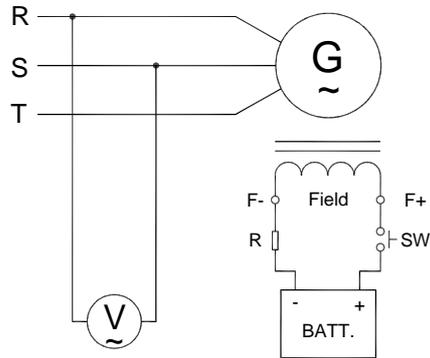

Figure 2 Manual Field Flash
3.2.1 Total of 3 sets of independent sensing inputs, each input voltage equals to 220V (Center), can be series into Y or Δ to connect to the generator output (3 Phases) for example R-T, T-S, S-R, or joint connected into a single phase sensing (See Figure 2 to 13).
- 5.2.1 Shut down generator, disconnect the wiring between AVR and generator then flash the field. Flashing duration = 3 seconds. (See wiring in Figure 2)
- 5.2.2 Restart generator and measure the residual voltage by AC Voltmeter, if it is still less than 5 Vac, repeat the previous process, after several times, the residual voltage still cannot be built, Kutai EB500 is strongly recommended, see Figure 2.